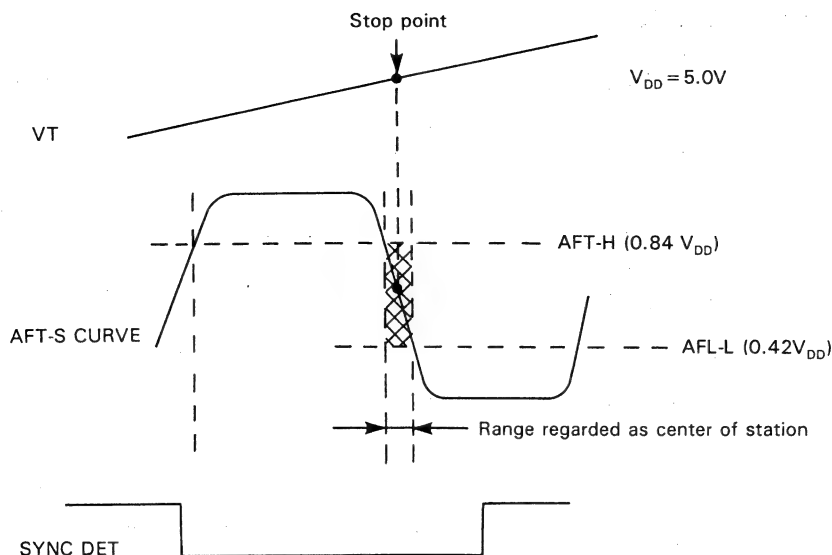

Figure 6-8. AFT-S curve at searching
Fig. 6-8 shows AFT curve and the timing of synchronizing identification signal at searching. AFT-S curve is fed into A/D input terminal pin ④⑦ of IC1401. Higher section than (AFT-H), lower section than (AFT-L) and middle section in between are detected, and the range regarded as the center of station is searched.
- ① VT (IC1401 pin ③⑩) voltage is raised at fast speed until it is detected that synchronizing detecting = "L" (IC1404 pin ⑩ SYNC DET) and AFT-S curve level (IC1401 pin ④⑦) is higher than AFT-H ( $0.84 V_{DD}$ ).
- ② VT is raised at slow speed until it is detected that AFT-S curve level (IC1401 pin ④⑦) is lower than AFT-L.
- ③ With VT being lowered by minimal step, AFT-S curve level is detected becoming higher than AFT-L. VT data at this time is "A".
- ④ With VT being lowered by minimal step, AFT-S curve level is detected becoming higher than AFT-L. VT data at this time is "B".